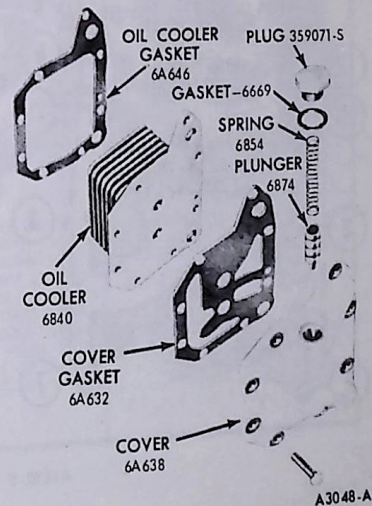

FIG. 71 Oil Cooler Assembly
3. Remove the relief valve plug and gasket; then remove the spring and plunger. The oil cooler assembly is shown in Fig. 71.